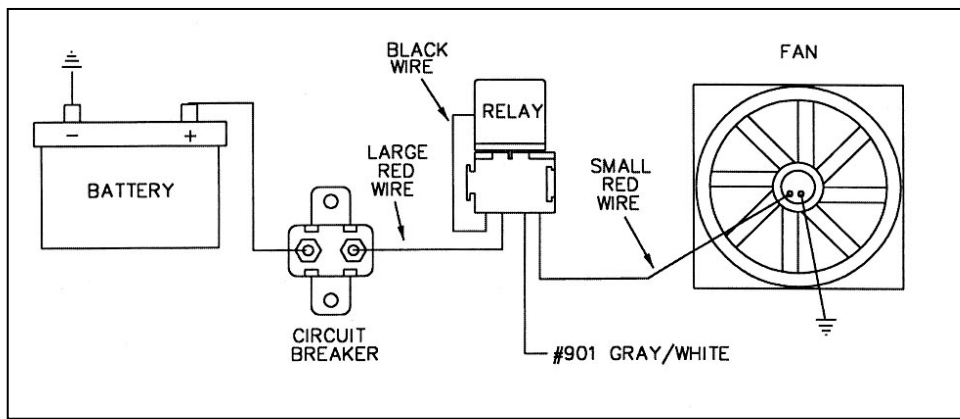

Figure 8-4A Typical Fan Relay Installation (Painless Part #30101)
8.5.4 Connect HEADLIGHT SECTION A wire #901 (GRY/WHT) to the Electric Fan Relay. This wire is an activation wire for the relay, **NOT A POWER FEED**. The other end of wire #901 is in the ACCESSORY SECTION SWITCHES and should be connected to a electric fan switch in the dash. Connect 906 (GRY/WHT) from ACCESSORY SECTION B+ to the other side of the fan switch. **Figure 8-4A** shows a typical fan relay installation.